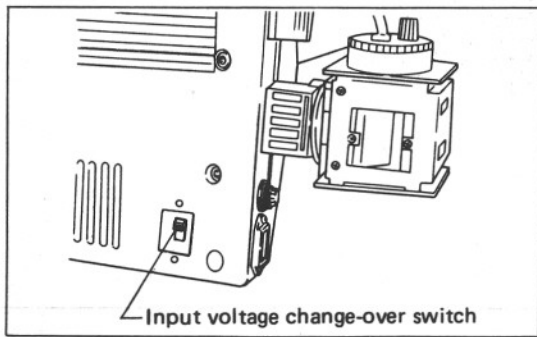

Fig. 4
- 1) Set the input voltage to the power source voltage by means of the change-over switch. (Fig. 4)